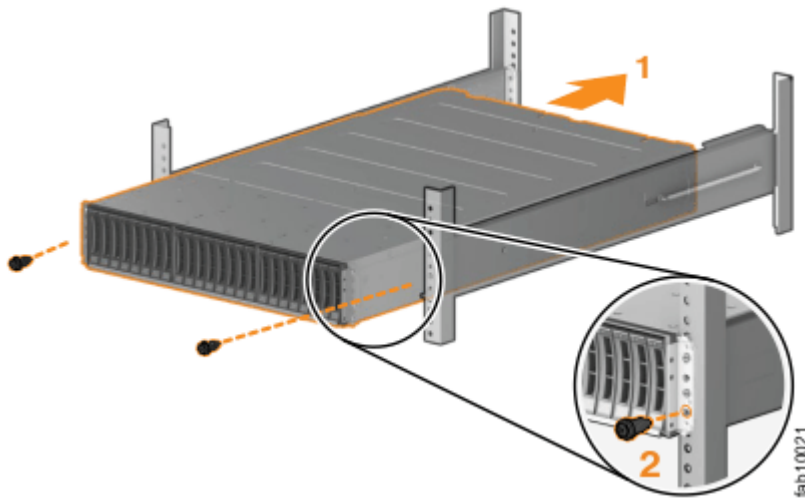

Figure 27. Inserting the enclosure
3. Slide the enclosure into the rack along the rails until the enclosure is fully inserted. (See Figure 27 on page 68.)